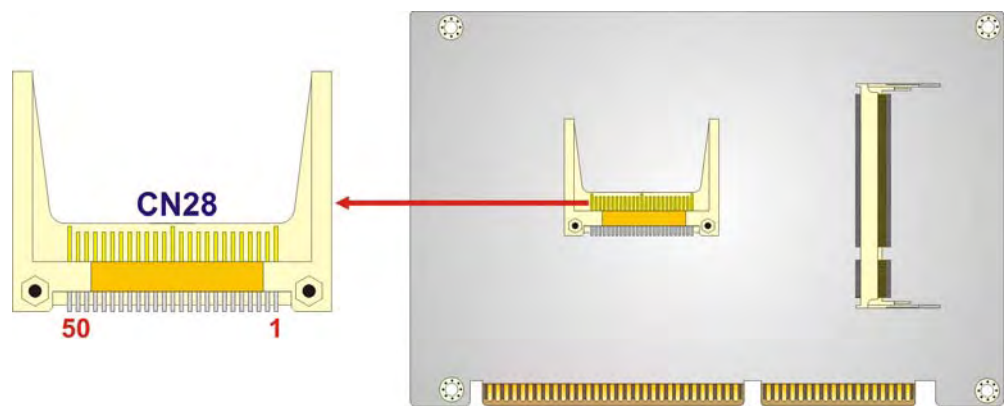

Figure 3-6: CF Card Socket Location
- CN Location:** See Figure 3-6